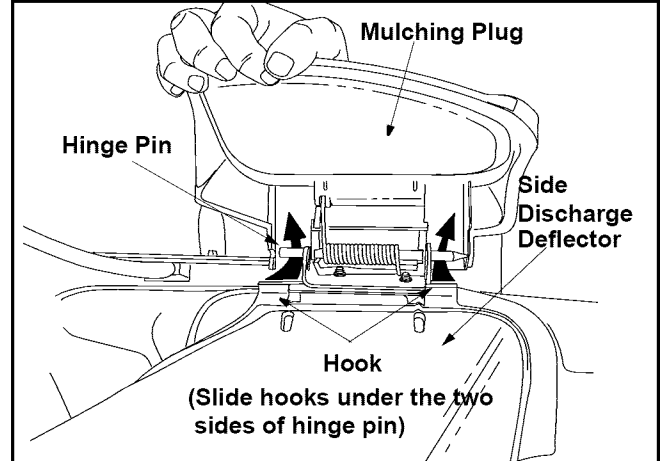

Figure 5
- Slide the two hooks on the side discharge deflector under the hinge pin on the mulching plug assembly as shown in Figure 5.